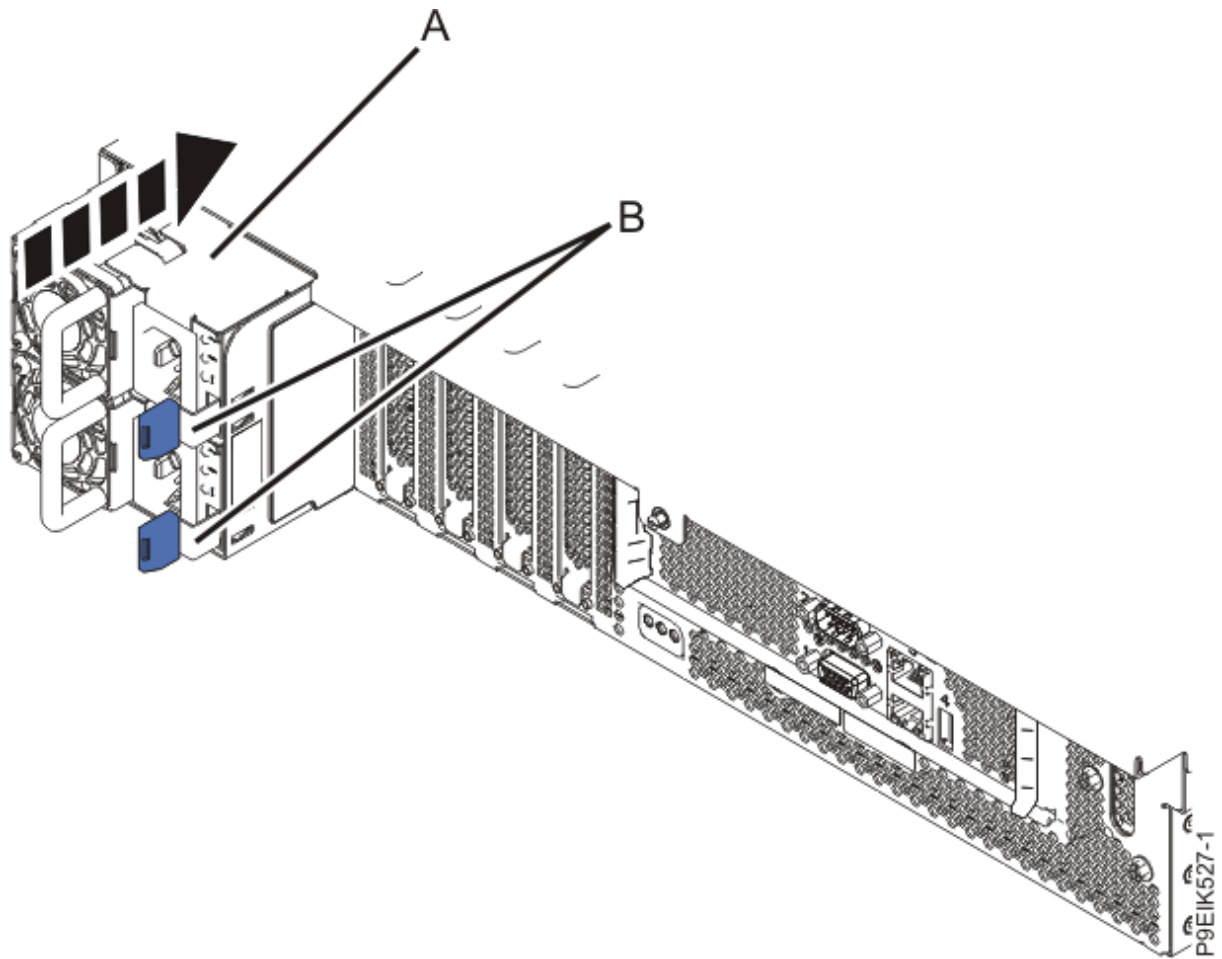

Figure 114. Replacing the power supplies in the system
4. Replace the power supplies as shown in Figure 114 on page 143.